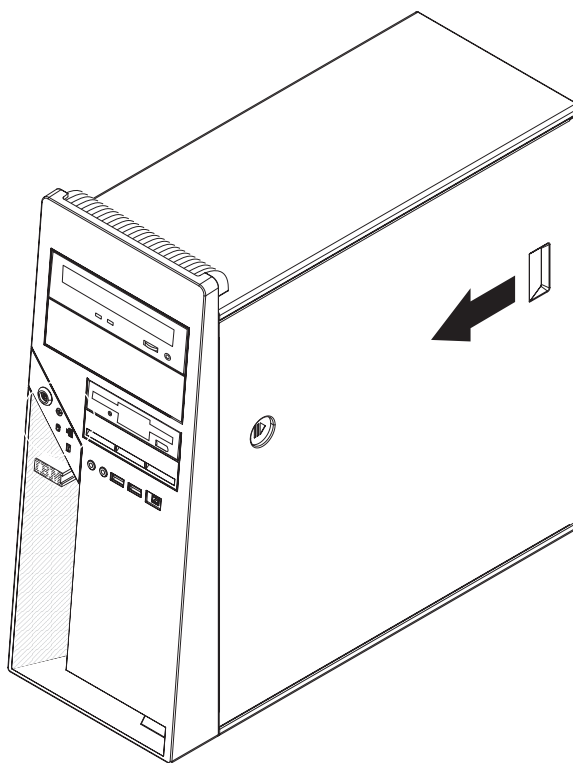

Figure 11. Installing the side cover
4. Install the side cover by placing it into position on the computer. Make sure that the lip on the bottom of the cover rests on the ledge on the bottom of the chassis. Slide the side cover forward to lock the side cover (see Figure 11).